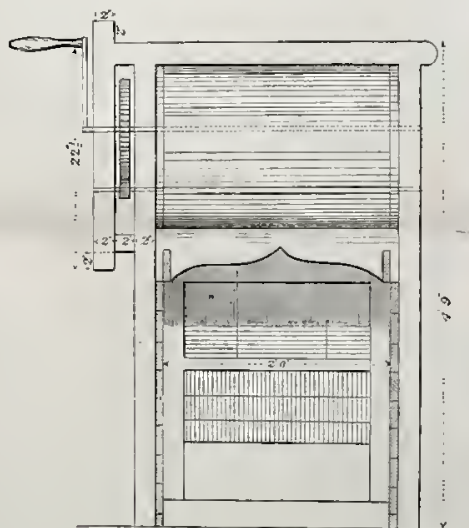
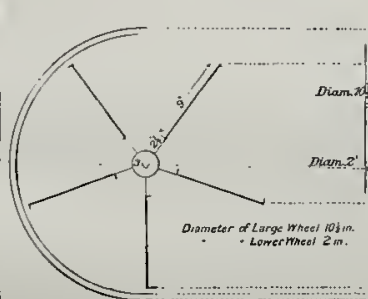

FIG. 4. FRONT.
FIG. 5. SECTION OF FAN.
*The Grove Cell.*—The elements of Grove's cell are zinc for the positive, and platinum foil for the negative, element. Fig. 5 shows one of the methods of arrangement. The outer cell A is of glass or earthenware, charged with dilute sulphuric acid, in the proportion of 1 of acid to 8 of water. A cylinder of amalgamated zinc is placed in this vessel. Within the zinc is a porous cell charged with the strongest nitric acid, in which the platinum foil is placed. To increase the surface of the negative element the platinum is bent in the shape of the letter S. When the cell is in action unpleasant fumes are given off by the nitric acid. As the fumes are injurious to health when breathed for any length of time, the platinum is furnished with a wooden lid which closes the porous cell. It is better, however, to keep the cell out of doors when in action, leading stout copper wires from it to whatever work may be going on.
Figs. 5, 6 show the fan or blower, made of tin or zinc. Fig. 7 is the plan of the sieve, which is shown dotted in position in Fig. 1, and partly in elevation, 3, 4. At the back, in Fig. 4, will be seen the back of the hopper, with a screw to raise the lower portion to allow a large or small quantity of grain to fall on to the sieve. In the act of falling it is blown upon by the wind from the fan, which carries the dirt away, and the grain rolls down the sieve into a sack or on to the floor.